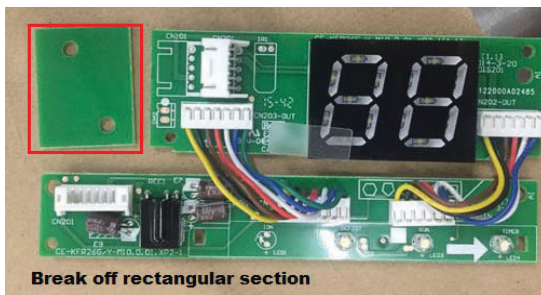

Fig. 17 — Display Board
6. Carefully bend and break off the rectangular section (upper left section with two diagonal holes) from the Display Board (see Fig. 17).